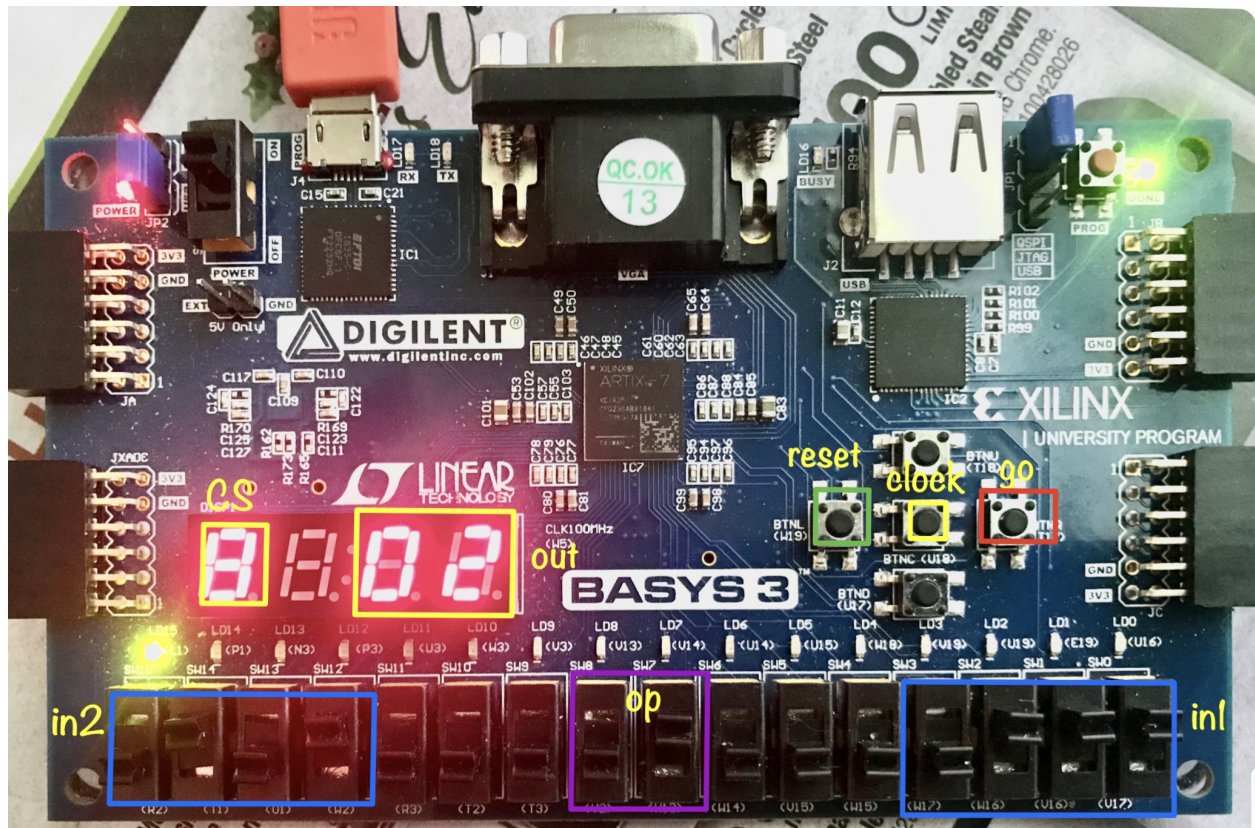

Figure 9: inputs and outputs layout for the FPGA validation process of task 4.
For the FPGA validation process, the rightmost 4 switches are 4-bit input in1, the leftmost 4 switches are 4bit in2. The middle 2 switches are 2-bit input op(purple). The center button is the clock(yellow), the left button is reset input(green), and the right button is go input(red). Since there are only eight states, the current state output signal (CS) only need one seven segment LED which is on the left. The 4-bit output(out) need two seven segment LED on the right. According to Figure 9, in1 was 0111(7), in2 was 0101(5), and selecting subtraction operation (op=01). The device clocked 6 times after go button was pressed. The result at the last state(s8) was correct since 7-5 is 2. We also randomly tested other input cases and the result also as expected. For this reason, the FPGA validation process was successful.